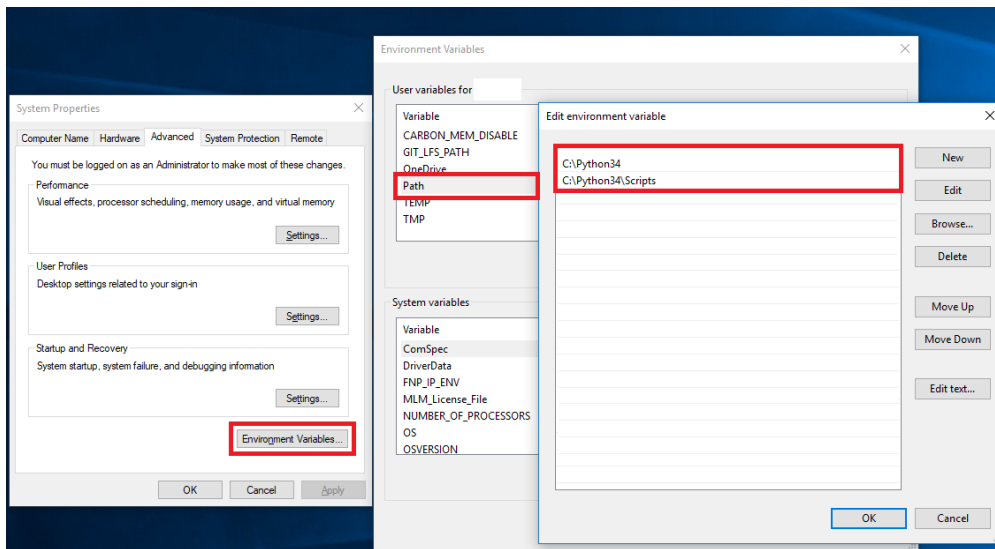

Figure 7 Setting Python path in Environment Variables
- c. Double click on **Path** and add the paths by clicking on **New** as shown in Figure 7.